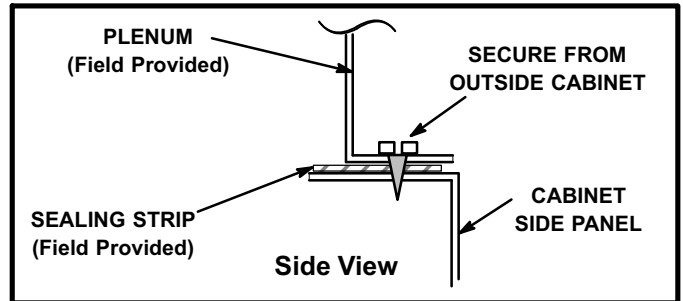

FIGURE 15
- 1 - Bottom edge of plenum should be flanged with a hemmed edge (See figure 15 or 16).